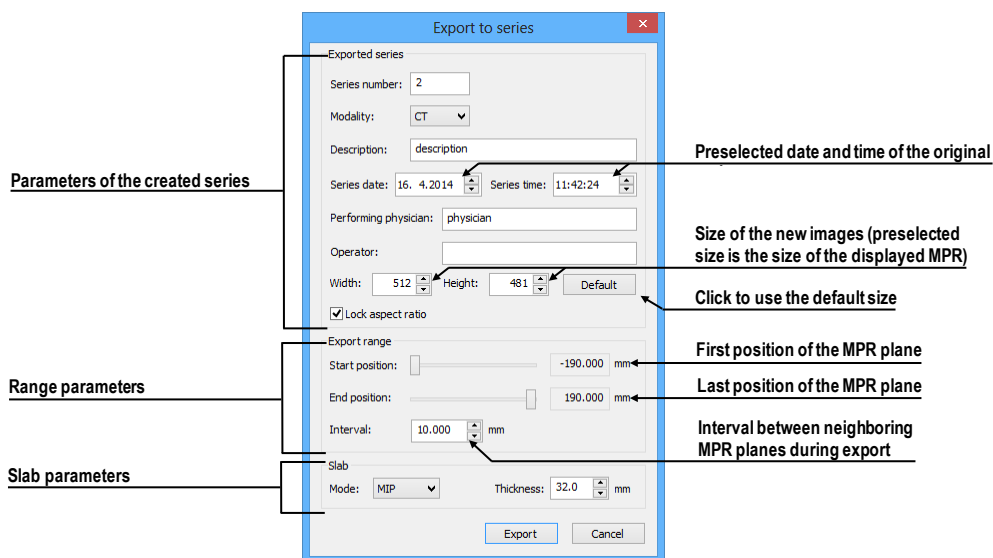

Figure 290 – Export to series dialog
3. The **Export to series** dialog will be displayed in which you can set the parameters for MPR export (see Figure 290).